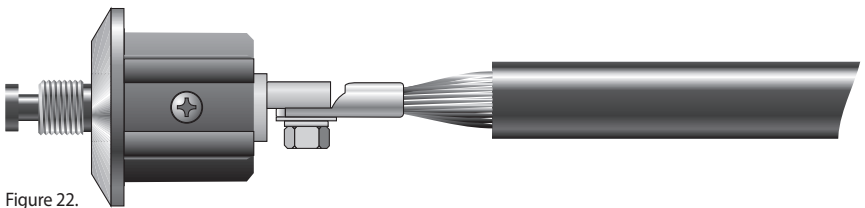

Figure 22.
- Connect the crimp lug to the Stormmaster mast base assembly using the bolt and washers as supplied with the assembly. Ensure the connection is aligned correctly and tightly secured using a 17 mm spanner, socket or shifting spanner. Note orientation of lug on lower finial connector [Figure 22].